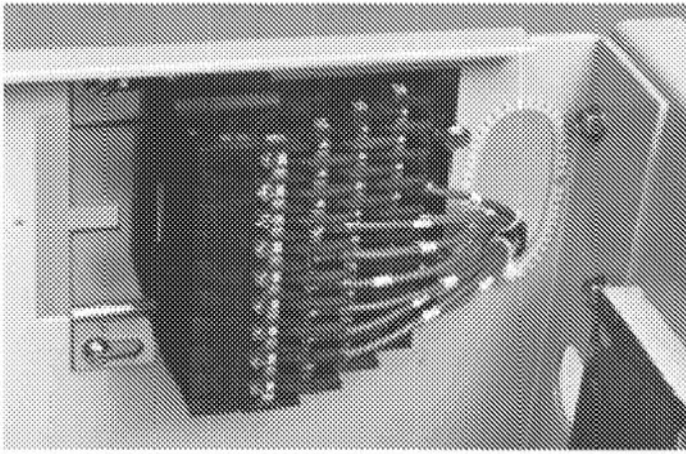

Figure 9. Wiring Attached to the secondary disconnect and routed through the hole in the type 2 enclosure side wall
4. Move the mounting slide back to capture the Secondary Disconnect mounting feet, as shown in Figure 9. Tighten the two mounting screws to 32 lb in. The heads of the screws holding the rear bushings capture the Secondary Disconnect mounting slots.
5. Install the wiring to the Disconnect block, beginning with the rear row. Route the wires out through the grommeted wire-exit hole, as shown in Figure 9.